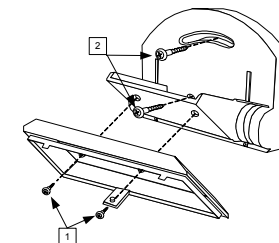

Fig. 9: Swivel Mounting
3. Attach the swivel mounting adaptor to the back plate using the two supplied screws (1, Fig 9).
4. Mount the Wireless VITRON on the required location (wall or ceiling) using the supplied screws (2, Fig 9). Do not tighten the screws.